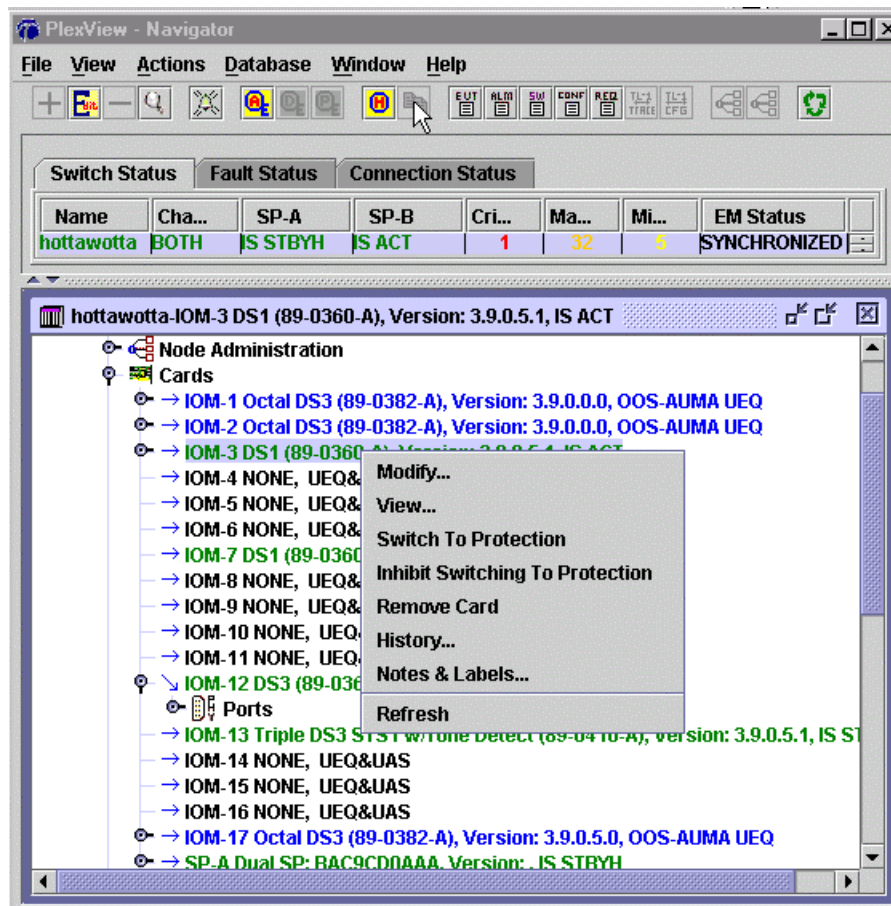

Figure 1. Switch to Protection
3. Right-click the switch name in the switch status panel or double-click the switch to select it for the main panel and then right-click the switch name. Double click *Cards*. Right-click the IOM you want to switch to protection and then select *Switch to Protection*. See Figure 1.